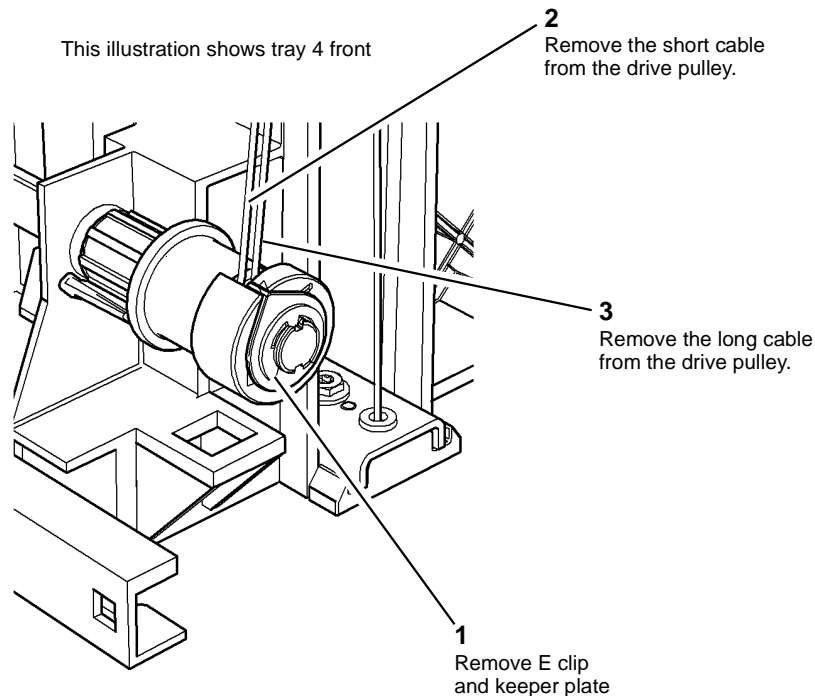

Figure 1 Front elevator cables release
2. Release the cables from the appropriate front drive pulley, Figure 1.